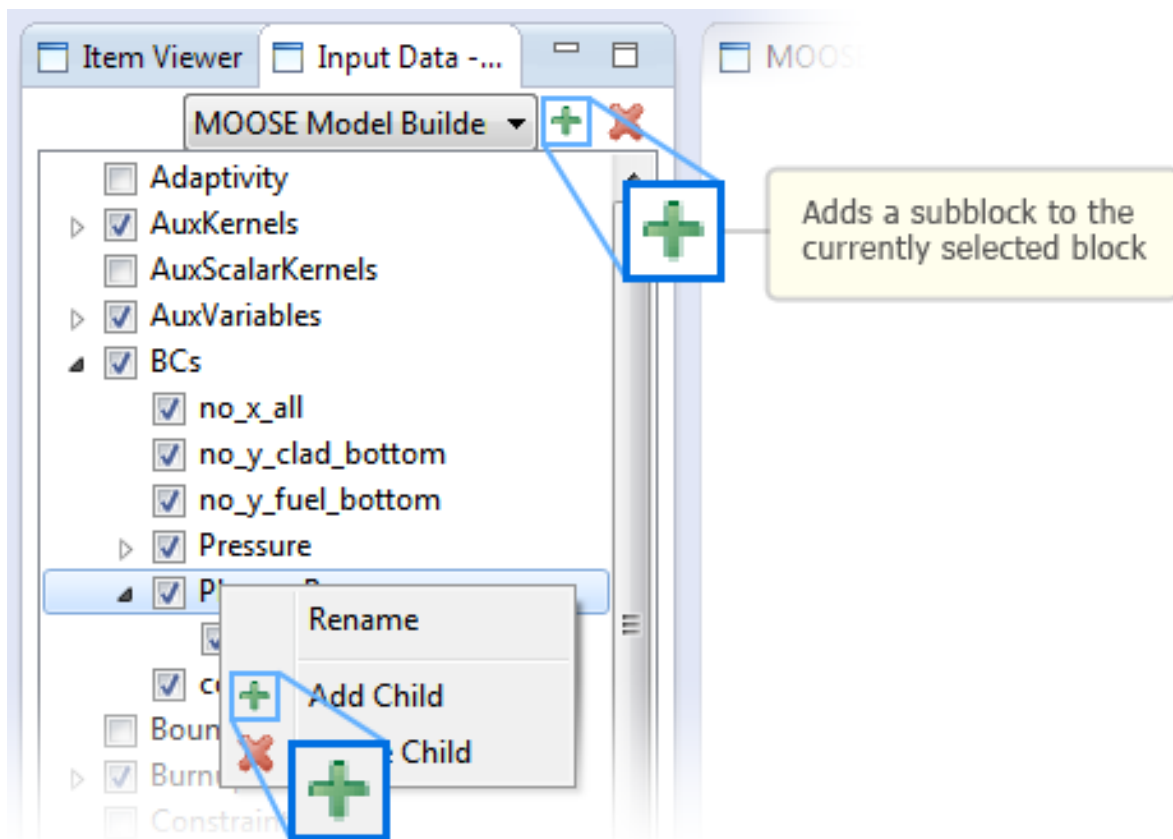

Fig. 22. The NiCE MOOSE tree can be modified by the addition or removal of sub-blocks.
5.4.2.2 Adding and Deleting Blocks If you'd like to add a subblock, first select the parent block you'd like to add it to. Next, click the green "+" button located at the top right-hand corner of the *Tree View* (Figure 22). Alternatively, you can also right-click the parent block, and select *Add Child* from the context menu that appears. Doing this will prompt a pop-up dialog to appear. This dialog contains a list of all